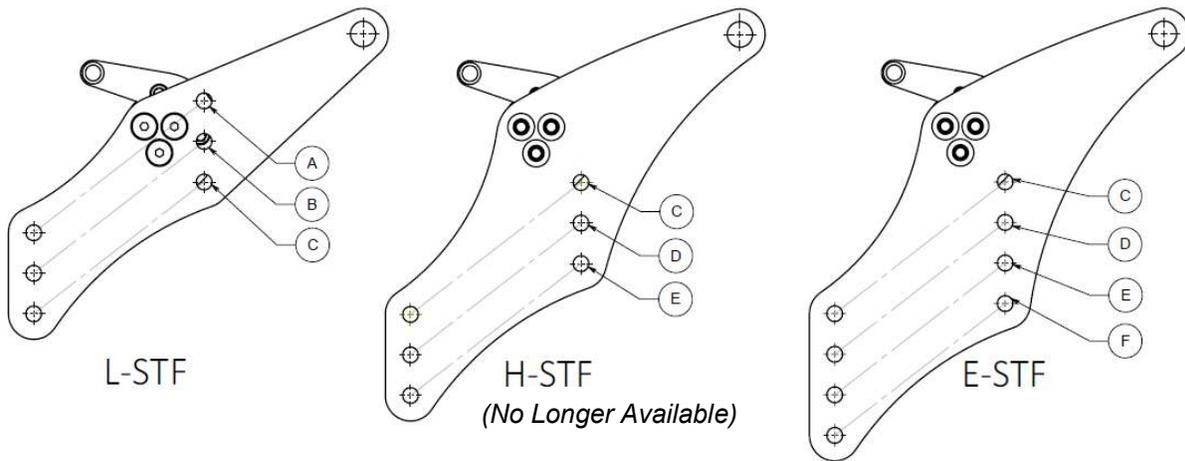

Figure 15.8: Bentley Wheelchair Positions
4. Reposition the sub frame onto the lower frame. There are multiple seat height options for each chair. Refer to Figure 15.8, Table 15.1 and Table 15.2. Once the holes on the sub frame, lower frame, and shim are lined up, insert the lower seat height bolt on each side of the frame. This will help with the alignment of the frames. Then refit the upper seat height bolt.